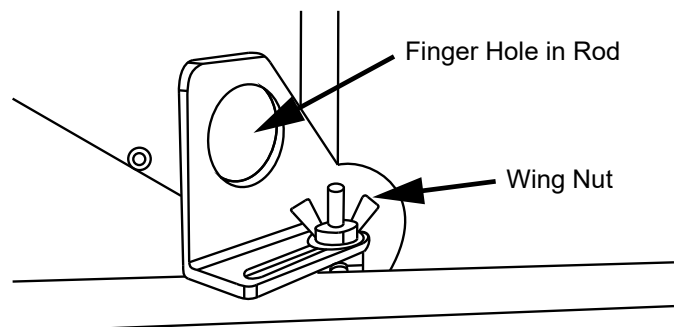

Figure 11.3
1. Loosen the wing nut (**Figure 11.3**).